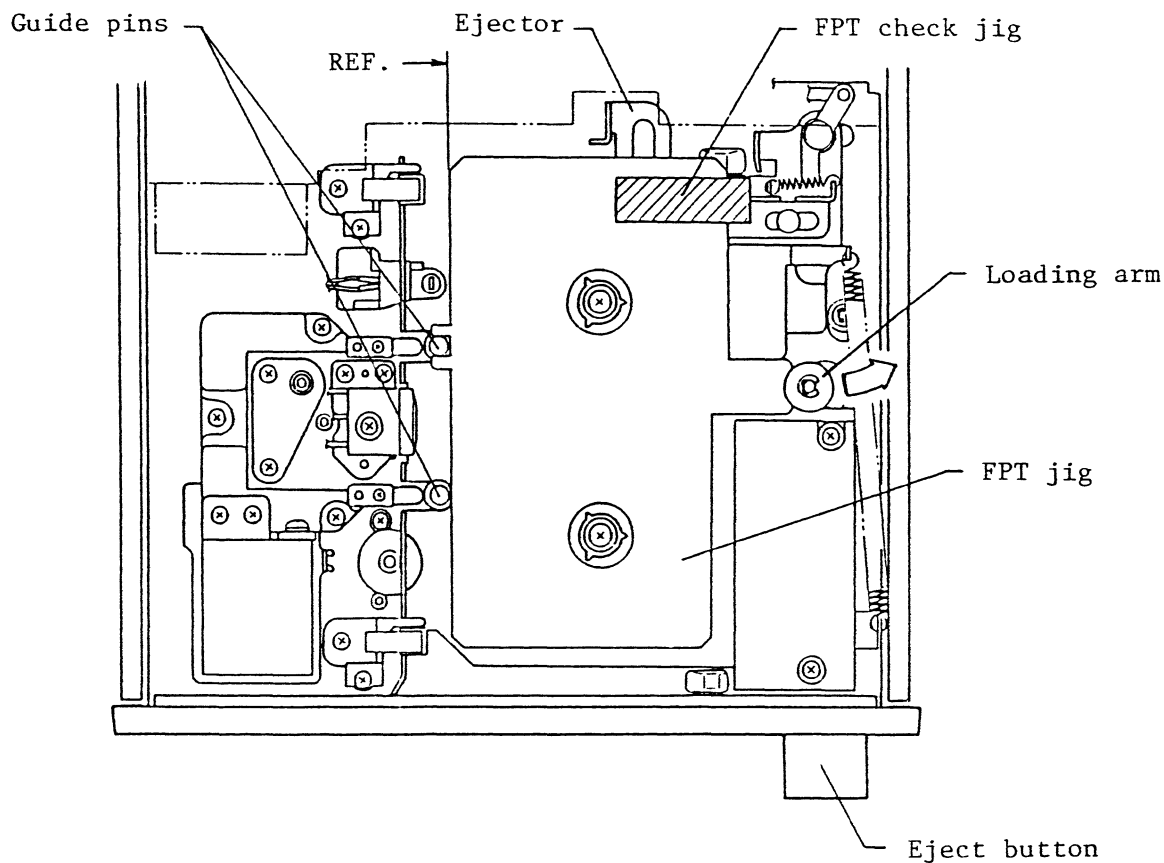

Fig.420 Setting of FPT jig
- (c) Attach the FPT jig. While pushing the loading arm with the finger in the arrow direction, place the FPT jig on the holder base with reference to the guide pins, and return the arm gradually. Then, check if the reference plane touches the two guide pins (Fig. 420).